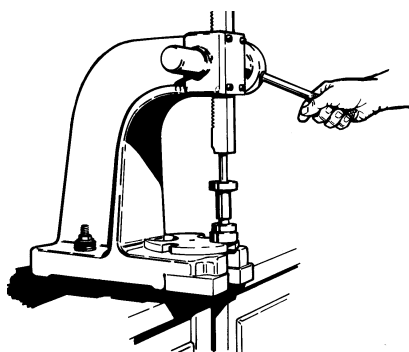

Figure 4-23
- Using an arbor press, install the bearings on the shaft prior to installing the shaft into the pedestal. A steel "donut" with the proper inside diameter and outside diameter, refer to Chart 1, should be used between the arbor face plate and the lower bearing to insure proper installation and to prevent bearing damage. The bearings must seat against the shoulder for proper alignment. Refer to Figure 4-23. *Also refer to Alternate bearing installation procedures.